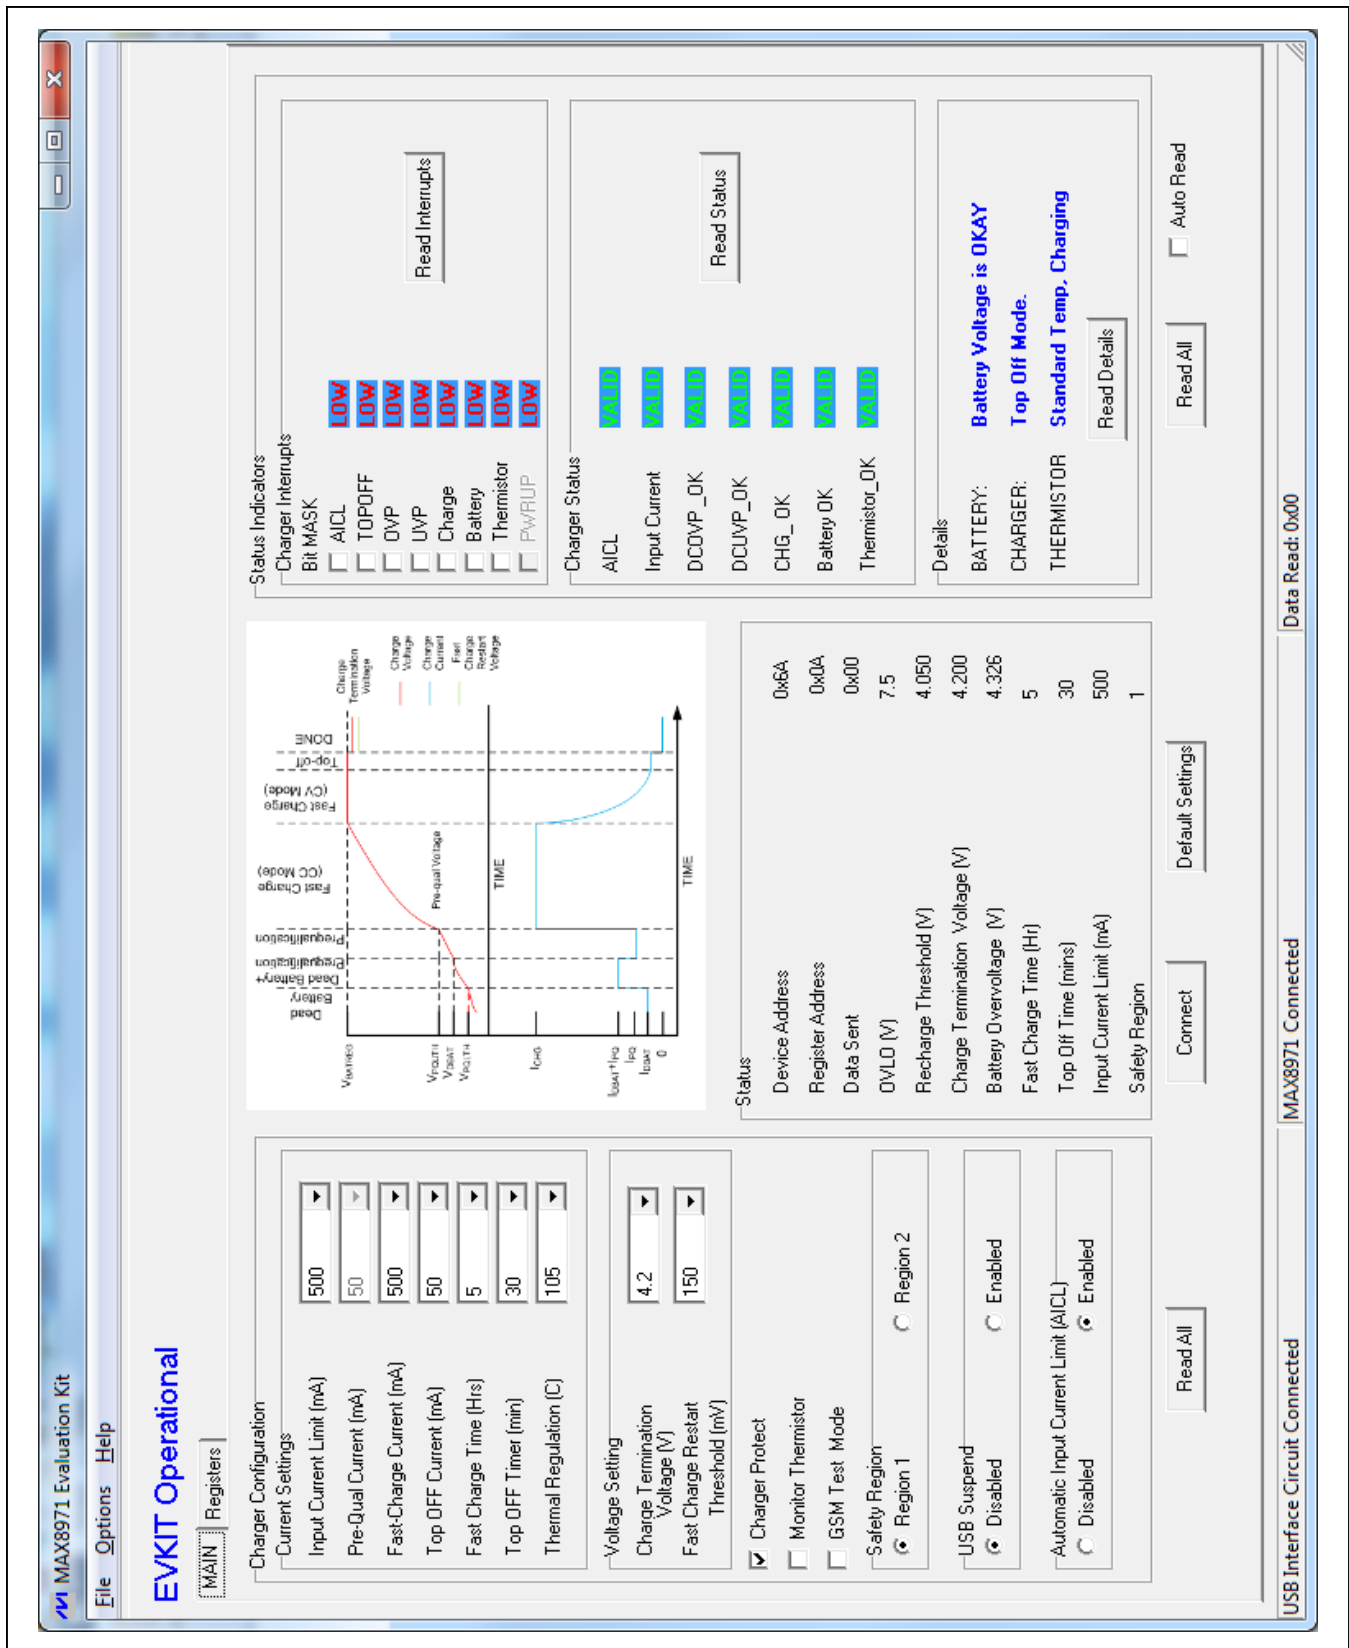
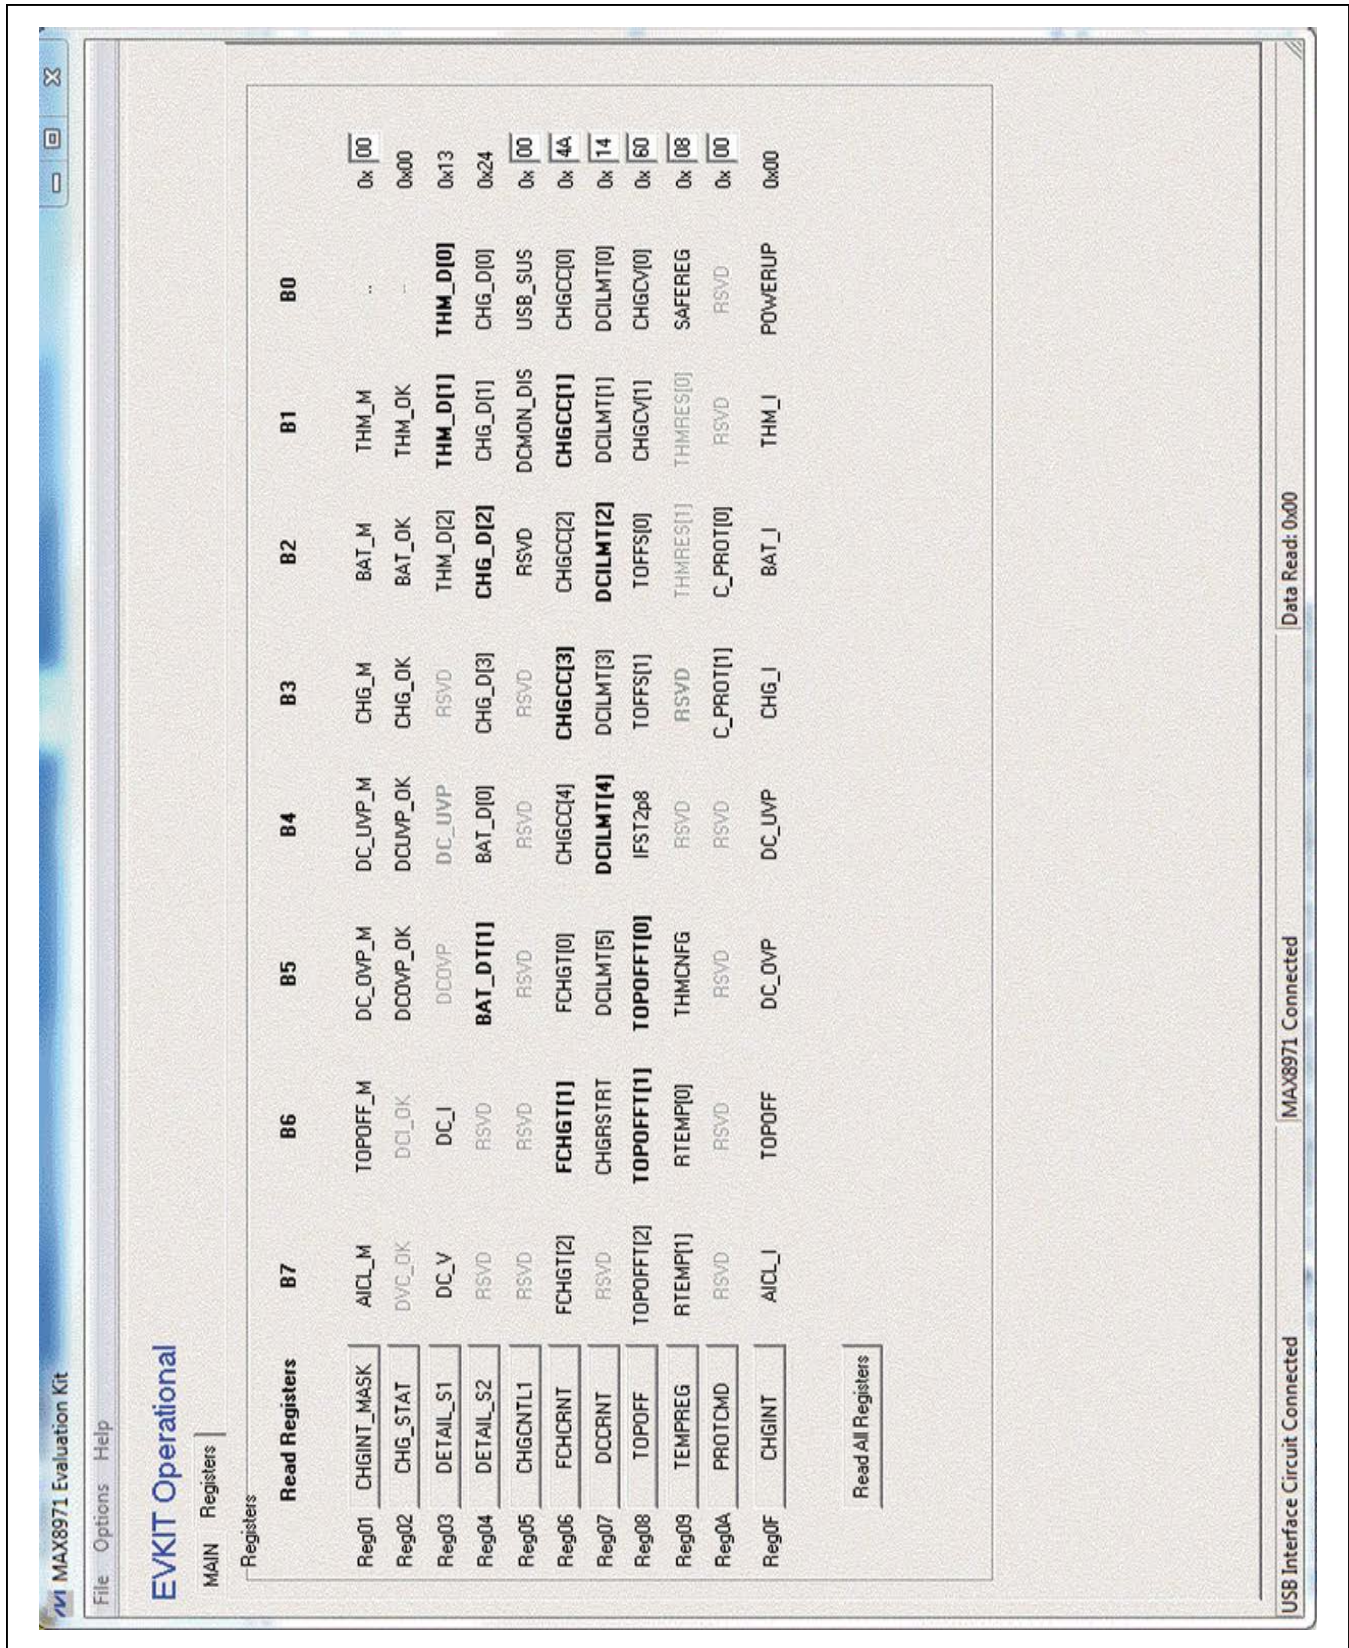

Figure 1. MAX8971 Evaluation Kit Software Main Window (MAIN Tab)
Figure 2. MAX8971 Evaluation Kit Main Window (Registers Tab)
- 11) Start the EV kit software by opening its icon in the **Start | Programs** menu. The EV kit software main window appears, as shown in Figure 1.
The GUI shown in Figure 1 is the main window of the MAX8971 EV kit software that provides a convenient means to control the MAX8971 IC. Use the mouse or press the Tab key to navigate through the GUI controls. The correct SMBus read and write operations are generated to update the IC's internal memory registers when any of these controls are executed.
The EV kit software main window consists of two tabs, **MAIN** (Figure 1) and **Registers** (Figure 2), to provide control of the IC software-configurable features. The **MAIN** tab sheet provides group boxes, checkboxes, and pushbuttons of the charger configuration registers. Status indicators are also available to indicate the read-only registers bit setting. The **Registers** tab sheet provides a map of the device registers, as well as configuration control of each register bit.
To view the IC's register settings, select the **Registers** tab (Figure 2). The value of all control registers is displayed and updated automatically when changes are made using the GUI. Click on bit names or enter register values in hexadecimal format to manually program the IC's registers. Changes to the register map automatically update the GUI.
hardware connectivity. To exit demo mode, select **Options | Demo Mode** from the menu bar or press the **Connect** button located at the bottom of the MAIN tab (Figure 1). In demo mode, **Demo Mode** is displayed on the panel and all indicators in the **Status Indicators** group boxes display **N/A**.